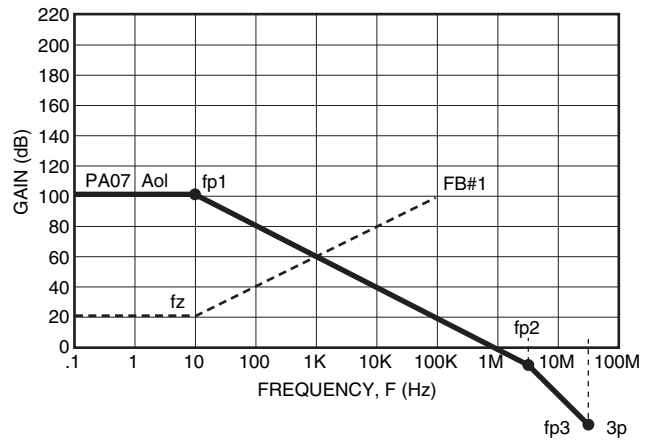
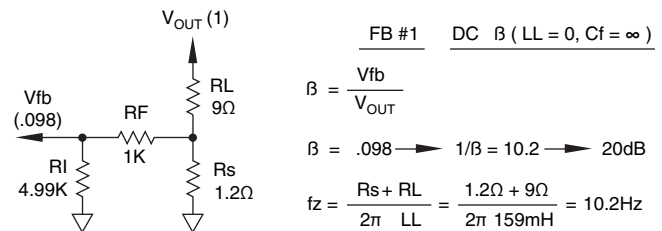

FIGURE 17. Aol AND FB # 1 – MAGNITUDE PLOT FOR STABILITY
FIGURE 18. FEEDBACK NO.1 (FB #1)
STEP 1: On Figure 17 plot the op amp's Aol curve as given by the manufacturer.
STEP 2: On Figure 17 plot FB#1. Refer to Figure 18 for calculation of FB#1. At DC, LL is a short and so β is a voltage divider through resistors as shown in Figure 18. As we go to higher frequencies, the reactance of LL will increase ($X_L = 2\pi fL$). This will increase the net load impedance
which will cause β to decrease and $1/\beta$ to increase as frequency increases. Since we are working with a single reactive element the increase of that gain will be 20 dB per decade. Figure 18 details the breakpoint f_z where this increase begins. We see that at the intersection of FB#1 and the PA07 Aol curves the rate of closure is 40 dB per decade indicating marginal stability.